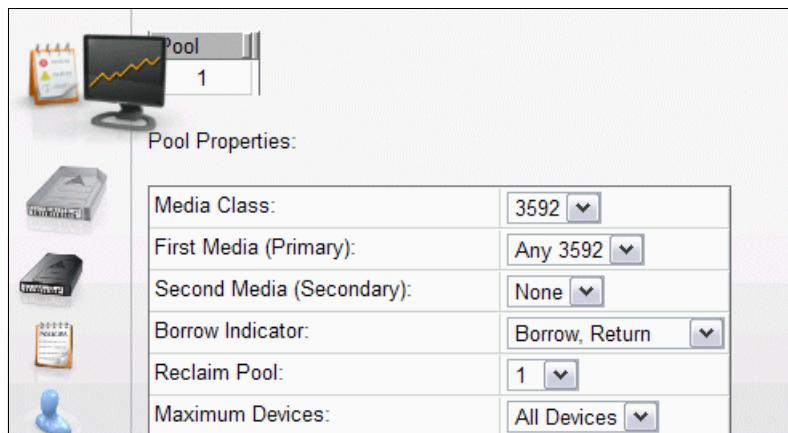
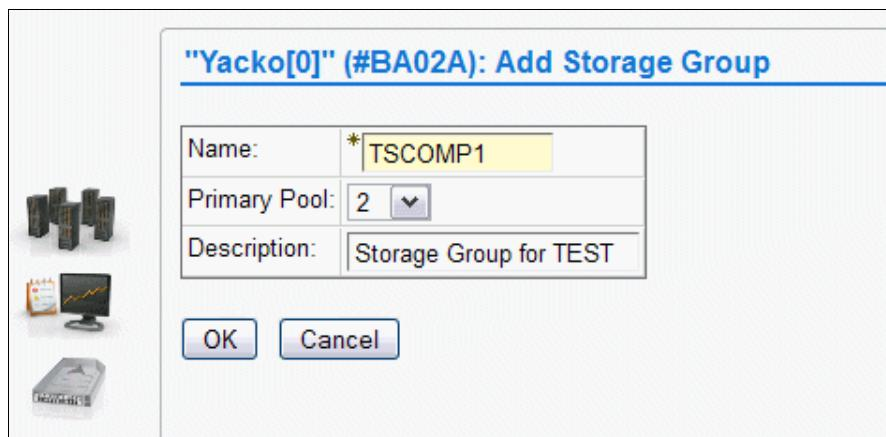

Figure I-4 Volume pools for PROD and TEST
Figure I-9 Storage Group for TEST
The Physical Volume Pool Modify Properties window that is shown in Figure I-4 is used to define reclaim policies for each of the pools. Assign logical volumes to pool 1 for PROD and pool 2 for TEST, as shown in Figure I-9 on page 1028.
5. Define an SG for TEST (named TSCOMP1) as shown in Figure I-9. Remember your requirements for secluded physical volumes, as described in “Physical volume pools” on page 1025. The definition for PROD is not shown, but it must relate to volume pool 1. Define the SG on both clusters in the grid.